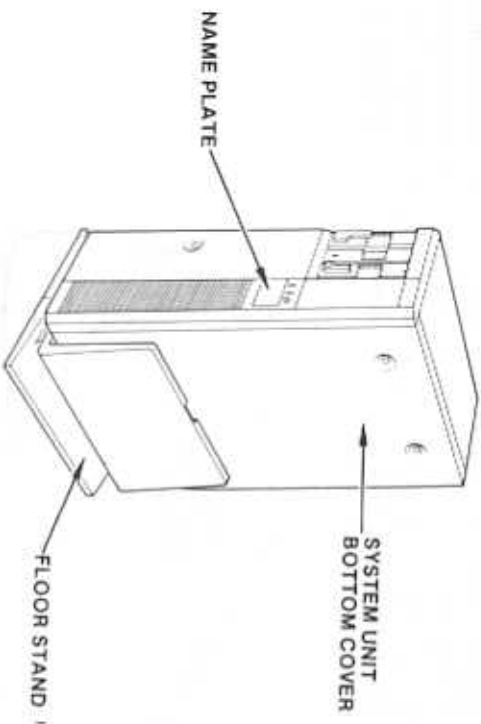

Figure 3-11. System Unit Mounted in Floor Stand
The system unit can be used as shown in Figure 1-1, with the display monitor placed on the system unit. To save desk space, the system unit can also be placed on end (vertically) and mounted in an optional floor stand as shown in Figure 3-11. The floor stand makes the system unit more stable.
8. Next to the indicator lights on the system unit is the PC name plate (see Figure 3-11). Push in on the bottom edge of the name plate and slide it down slightly. The top edge of the name plate should pop out. Remove the name plate and turn it 90 degrees clockwise (so the name is right-side up). Place the bottom edge of the name plate into the slot at the bottom of the name plate opening. Push in and up. The name plate should slide and lock into place.